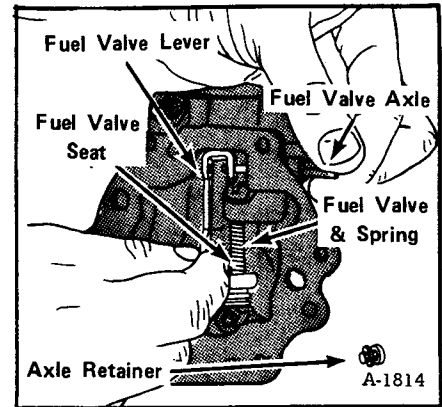

Fig. 126 Installing Fuel Valve Lever
(1) Install the main jet (Item 14) and compensator jet (Item 13).
(2) Place a new fiber washer on the main jet adjustment body. Install and tighten with a 5/8" socket wrench.
(3) Place a new o-ring on the main jet adjusting needle. Seat the adjusting needle then back it out 2 or 3 turns.
(4) Place a new rubber seat on the fuel valve stem (Item 21).
(5) Place the fuel valve spring (Item 22) on the fuel valve (Item 21). Insert the valve, spring end first, into the casting.
(6) Place a new o-ring on the inlet orifice (Item 18) and turn it part-way into the casting.
(7) Insert the tip of the fuel valve lever into the slot in the valve stem (Fig. 126). Install the axle and axle retainer.